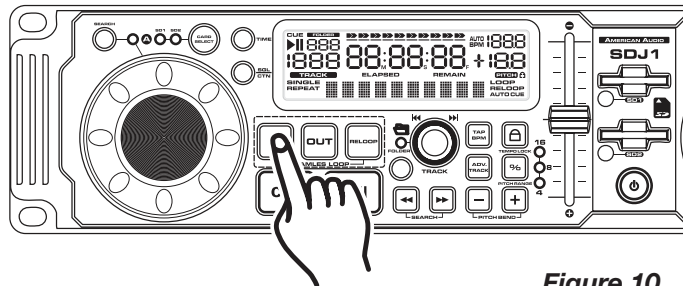

Figure 10
A cue point is the exact point playback will begin when the *PLAY/PAUSE BUTTON* (18) is pressed. You may set your cue point anywhere on a track. There are two ways to set and create a CUE point as detailed in figures 10 and 11.
- 1) You may press the *IN BUTTON* (12) on the fly (while the track is playing). This will set a CUE Point without music interruption. Pressing the *CUE BUTTON* (19) will now return you to the same point that you pressed the *CUE BUTTON* (19). Pressing the *CUE BUTTON* (19) will now return you to this exact point.